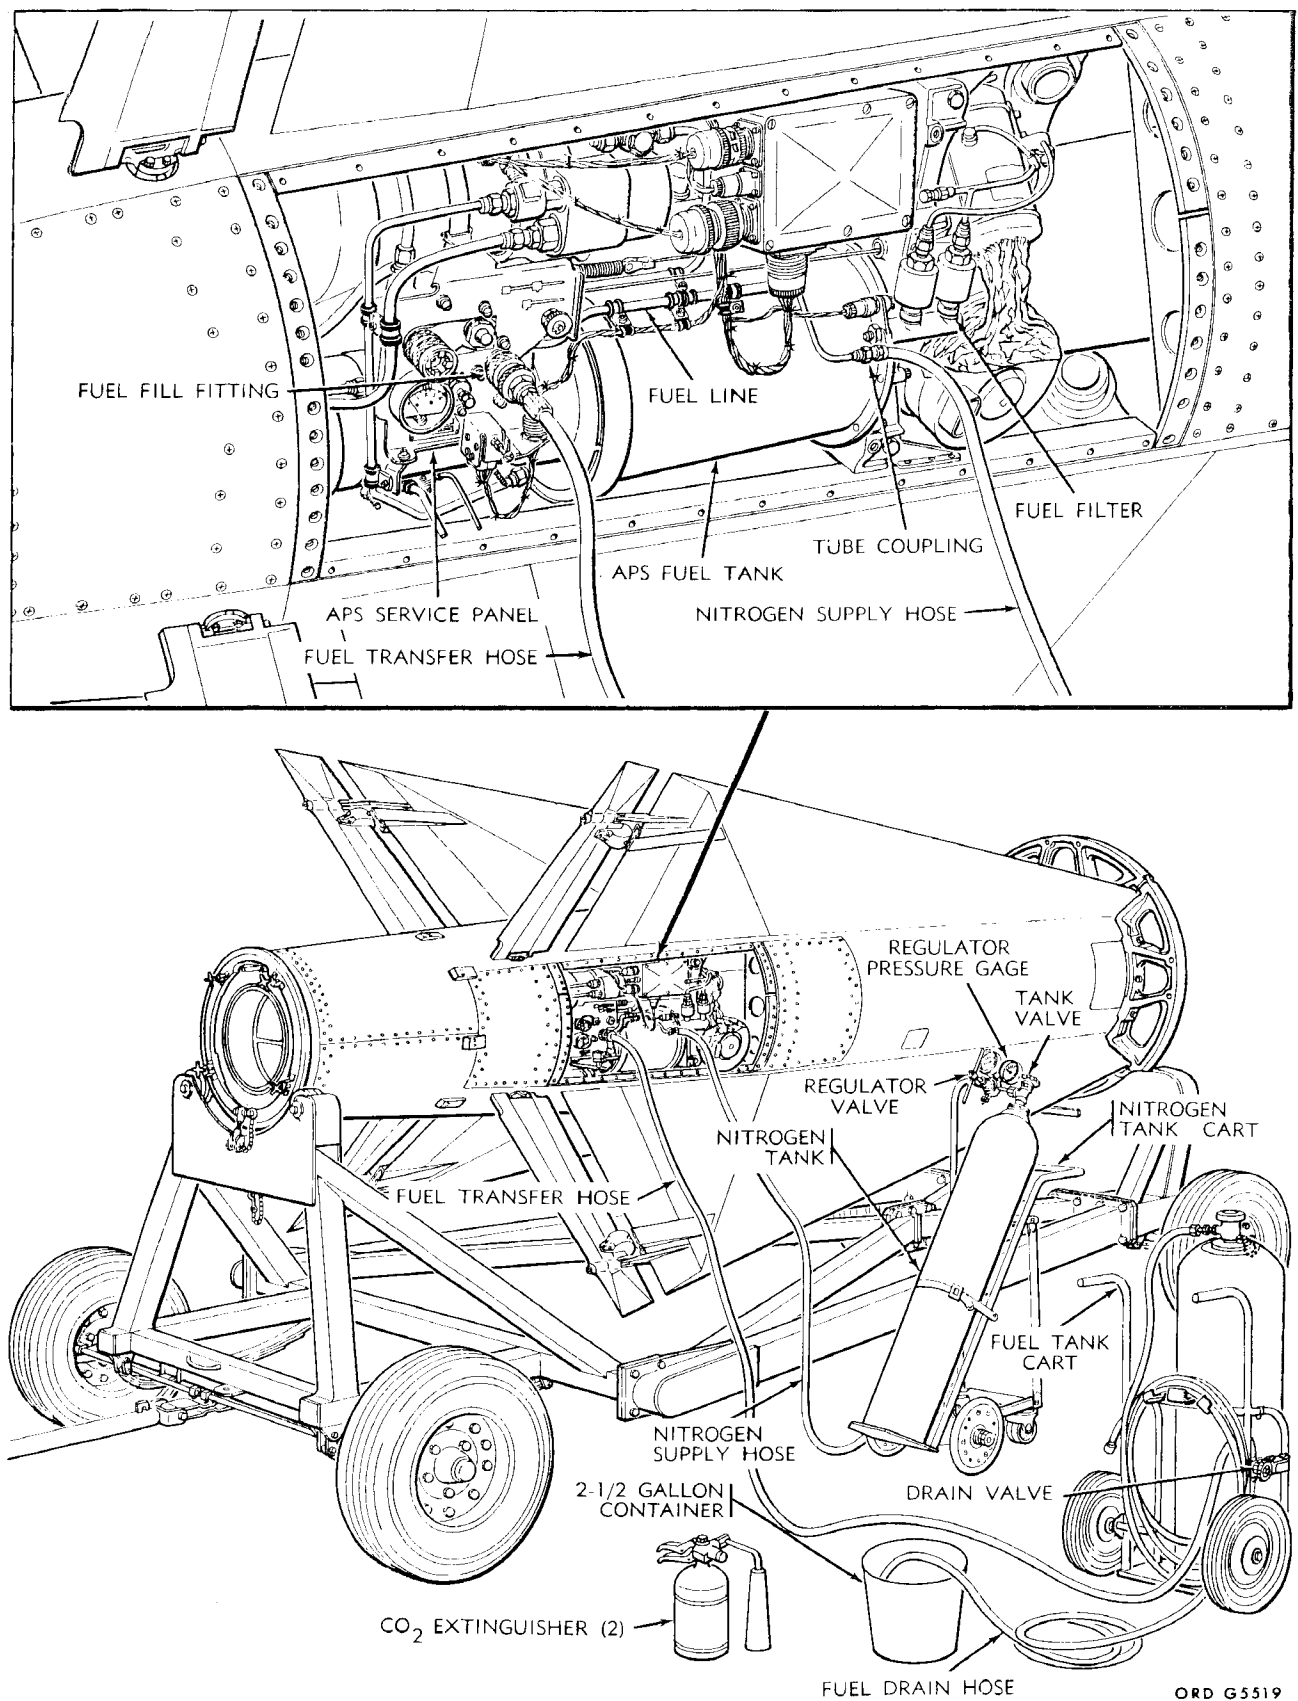

Figure 11-3. APS purging.
a. Connect the fuel transfer hose (fig. 11-3) from the fuel cart to the FUEL FILL fitting on the APS service panel. Place the end of the fuel drain hose in the 2-1/2-gallon (minimum) container at least half filled with water.